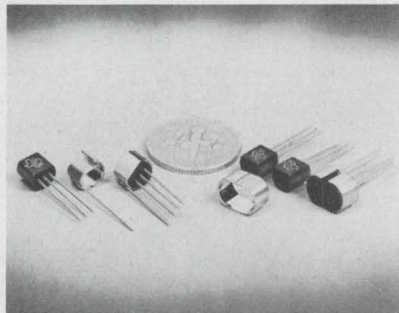

Figure 5. SILECT transistors and FET's are available with snap-on shield. Matched pairs may be factory-assembled with double clamps.
6. **Breadboard model** of the circuit in Fig. 5 illustrates construction gimmicks. The inductance of 17 nH, in the input matching circuit, is made of a piece of metal strip
To match the input, a broadband transmission line transformer T_1 is used (Fig. 5). It transforms from 50 down to 12.5 ohms, covering the entire range from 30 to 75 MHz. It is followed by
These low-cost, plastic-encapsulated, silicon junction units are available as N-channel (2N3819 and TIS34) and P-channel (2N3820) devices. Optional grounded or ungrounded snap-on clamps (shown in Figure 5) provide RF shielding and improved dissipation.
Applications include AM/FM tuners; mixers; low-, medium- and high-frequency amplifiers; and digital applications. Low-cost matched pairs for FET complementary circuits or differential amplifiers can be obtained by clamping matched units together as shown in Figure 5.